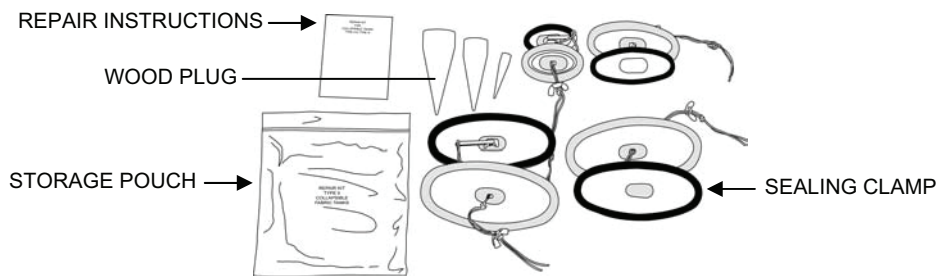

Figure 25. Collapsible Fabric Tank Repair Kit.
1. Open up the collapsible fabric tank repair kit that was packed with the tank (see Figure 25).